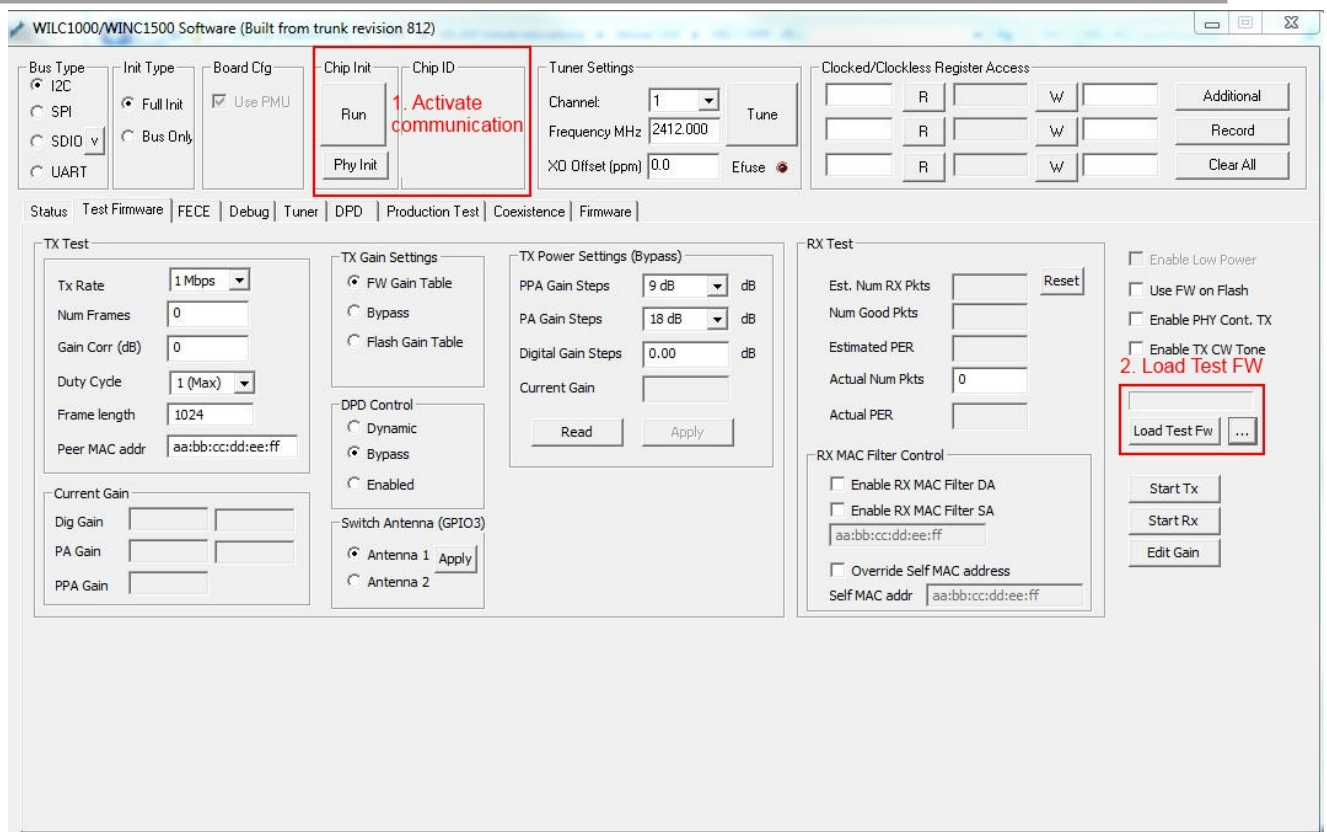

Figure 12: Atmel GUI first steps
- Activate the communication between Wlan module and GUI by pressing the **RUN** button (see Figure 12 step 1). The chip ID should appear. Current consumption should be $I=0,06A$
- Select Firmware **burst_tx_firmware.bin** and press **Load Test Fw** (see Figure 12 step 2). Current consumption should be $I=0,10A$.